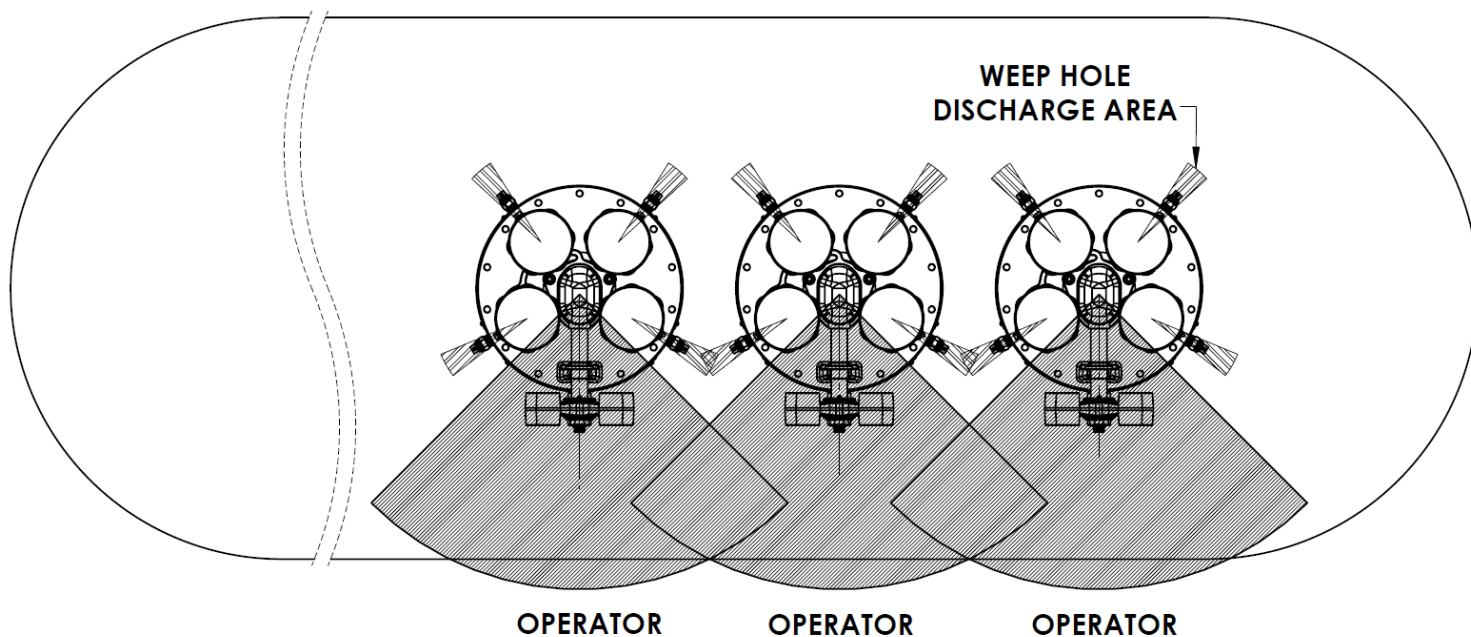

FIGURE 1: MANIFOLD OREINTATION
2. Install MEC relief valve of proper size and rating according to instructions provided with the valve. **WARNING:** Valve must be installed with weep hole oriented away from operator, from all other valves, manifolds, and other pressure containing piping and systems, see figure 1.